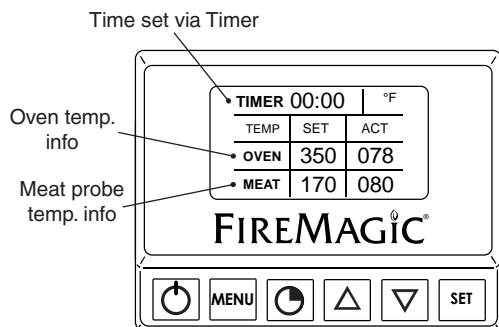

Fig. 24-3 Default screen detail
**Press the power button to turn the thermometer ON.** The default screen will be displayed. Temperatures for the oven and meat probe will be shown (Fig. 24-3). See below for options under the default screen.